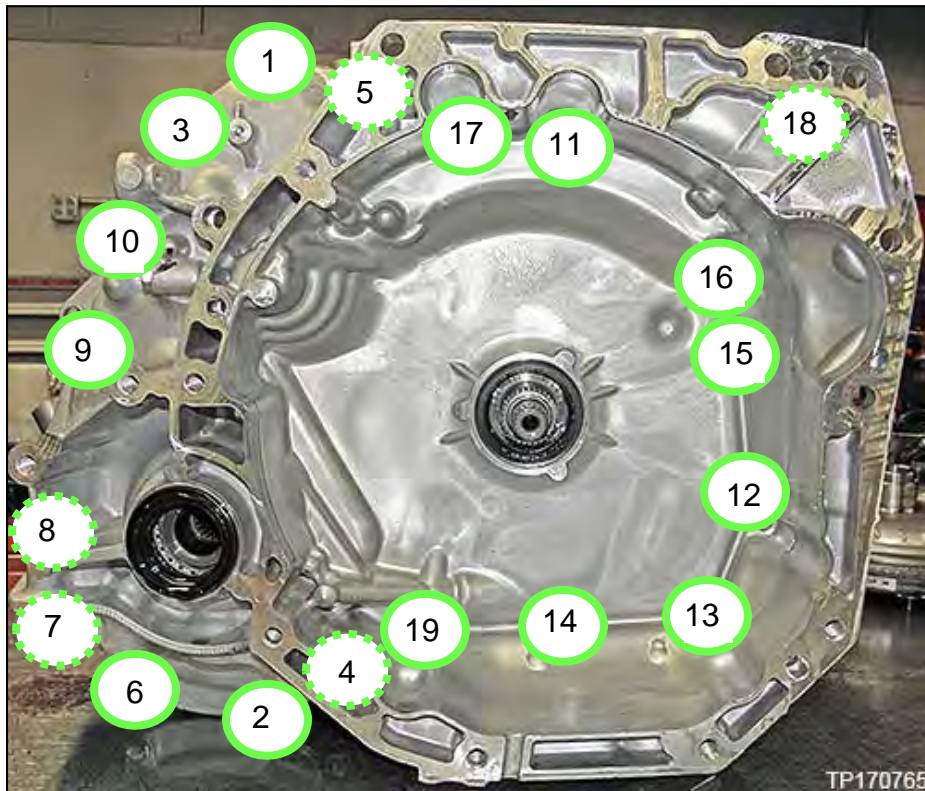

Figure 194
162. Install the torque converter housing onto the CVT case with nineteen (19) new bolts and torque to the following pattern shown in Figure 194.
HINT: The bolts not visible in Figure 194 are indicated with a dotted green circle.